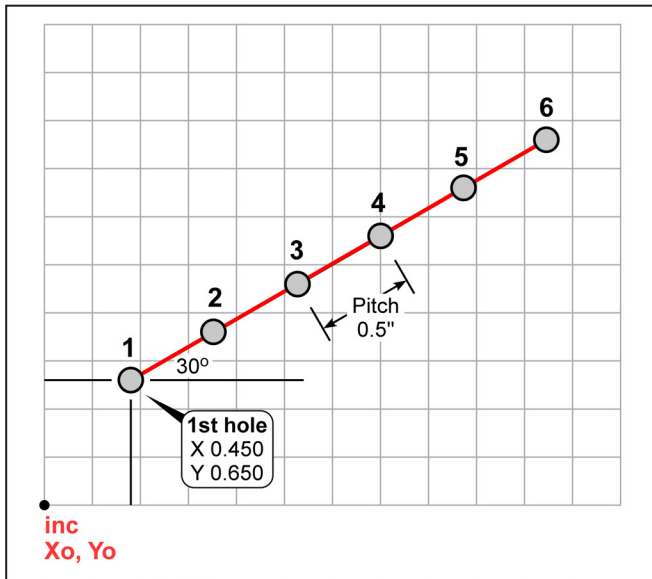
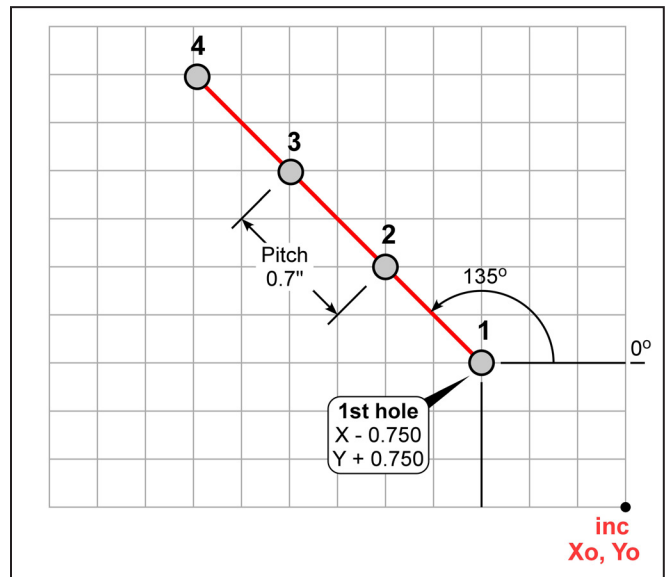

Figure 14 Example (1) of Line Hole drilling
Figure 17 Example (2) of Line Hole drilling
(1) Line angle less than 90°, Figure 14; (2) Line angle greater than 90°, on the negative side of the Y axis, Figure 17.
Example (1) Figure 14
Example (2) Figure 17